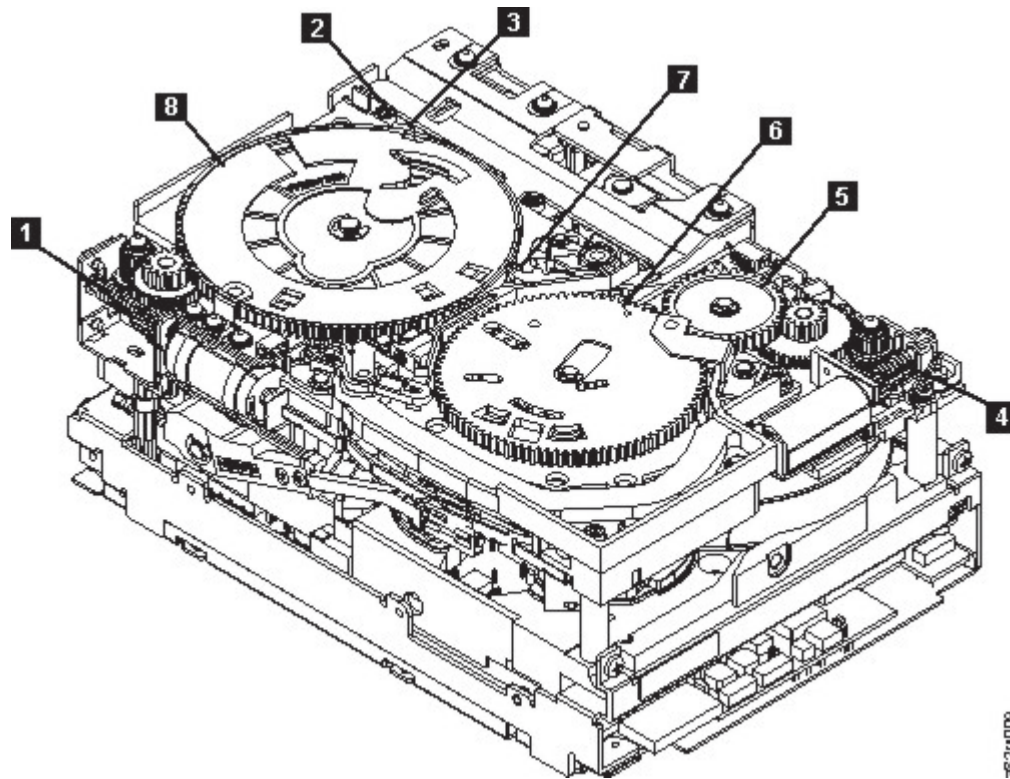
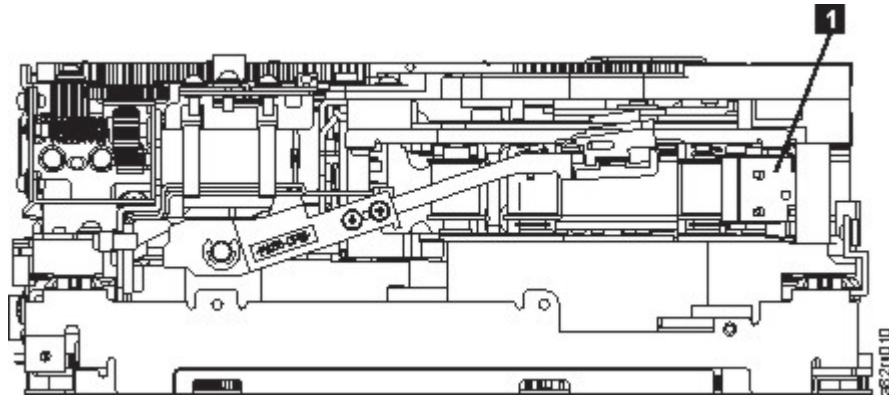

Figure 127. Drive with cover removed to reveal gear train.
Figure 128. Leader Block Assembly (LBA)
5. Locate the threader motor worm gear (4 in Figure 127 on page 262) on the rear of the drive. Use your finger to rotate the threader motor worm gear and slowly rotate the threader mechanism gear (6 in Figure 127 on page 262) clockwise.
This action rotates the threader motor worm gear (4 in Figure 127 on page 262) clockwise, drawing the LBA into the cartridge.
6. As the tape leader block assembly (LBA) is secured in the cartridge, you hear the LBA retention spring clips click into place. If you do not hear the click, continue rolling until the threader motor worm gear (**4** in Figure 127 on page 262) stops. The LBA is in the correct position.
- Loader mechanism gear (**6** in Figure 127 on page 262) nearest the front of the drive that actuates the cartridge loader mechanism.
- Position of the rotate stub (**3** in Figure 127 on page 262).
- Front loader motor worm gear (**1** in Figure 127 on page 262). Rotating this gear allows the loader mechanism gear (**8** in Figure 127 on page 262) to turn.
8. Rotate the loader motor worm gear (**1** in Figure 127 on page 262) to turn the loader mechanism gear (**6** in Figure 127 on page 262) counterclockwise. Continue turning until the rotator stub (**3** in Figure 127 on page 262) loses contact with the lever (**7** in Figure 127 on page 262). This action releases the LBA leader pin.
9. Rotate the threader motor worm gear (**4** in Figure 127 on page 262) to turn the threader mechanism gear (**6** in Figure 127 on page 262) counterclockwise. This action moves the LBA out of the cartridge and past the read/write head. Stop this rotation when the LBA is near the tape guide roller nearest the rear of the drive that is shown as **1** Figure 128 on page 263.
10. Continue rotating the loader motor worm gear (1 in Figure 127 on page 262) until the rotator stub (3 in Figure 127 on page 262) is positioned as shown. Notice that the rotator stub (3 in Figure 127 on page 262) is nearly aligned with the cartridge loader tray guide bearing (2 in Figure 127 on page 262).